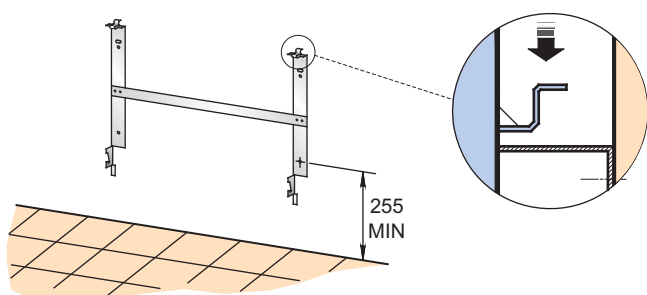

Fig. 2
1. Remove wall mounting bracket from the back of the heater by depressing the spring latch at the top of each bracket - see **Fig. 2**.
To release heater from the wall bracket for cleaning or redecoration, depress latch on both brackets (see **Fig. 2**) and hinge forward.